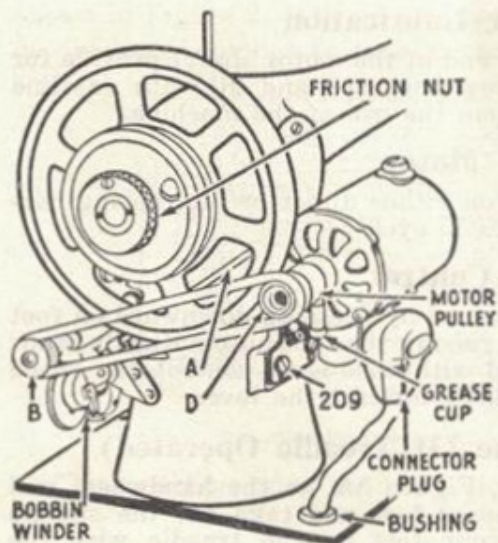
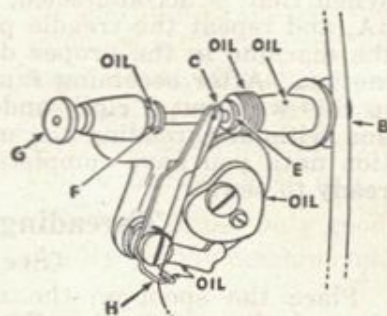

Figure 3A
Figure 4
Pull bushing up on motor cord as near to the motor as possible and slip motor cord into slot at edge of bed plate and push bushing back into hole in bed plate (see Fig. 3A). Unwind the extension cord inside the cabinet, plug into any base plug outlet, and the machine is ready for operation.
NOTE: Be sure that screws No. 209 (see Figure 3A) are tightened securely.
Loosen the friction nut, Figure 3A, so the handwheel will turn free. Raise the presser foot and take out the shuttle (see Figure 5). Place your feet on the treadle with the instep directly over the center. Draw the belt downward with the hand and move the feet up and down on the rocking treadle by pressing on the treadle first with the heel and then with the toes until an easy and steady motion is obtained. When that is accomplished, tighten the friction nut, Figure 3A, and repeat the treadle process until you can easily start the machine in the proper direction and can make a smooth motion. After becoming familiar with the treadle movement in this way, put a cloth under the presser foot and lower it, and without threading the machine, practice the treadle motion until you have complete control of it, when you will be ready to sew.
1. Swing the bobbin winder upward until rod A (see Figure 3A) forces motor pulley out of contact with hand wheel.
Hold handwheel with the left hand while loosening friction nut (Figure 3A) with the right hand. This will release the sewing mechanism of the machine. Pull bobbin winder toward you until the small pulley wheel (B), Figure 4, comes in contact with the belt. Operate the machine until the distributor (C) is as far to the right as it will go. Place one end of the bobbin in the socket of the spindle (E) and the other end of the bobbin in the socket of the step (F), pulling the step nut (G) out to admit the bobbin and letting it spring back into place. Catch the end of the thread between the brass end of the bobbin and center of the spindle on the right side, carrying the thread through slot (C), then to the lower end of the distributor to the slot (H), then up over eyelet (2), Figure 1, placing the spool on the spool pin. Run the machine as previously instructed and the bobbin will automatically wind. Be sure to